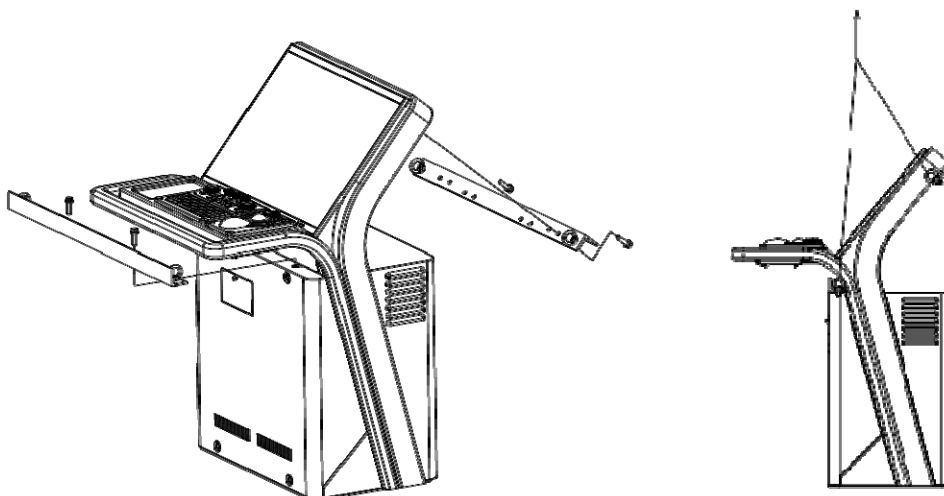

Fig 3-19 When the stand alone type display unit(26inch)
- Attach to the display unit the lifting lugs specified and eye bolt. And lift over the rope at four positons eyebolts. (See **Fig 3-19 When the stand alone type display unit(26inch)**)